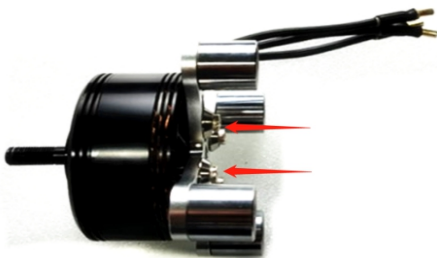
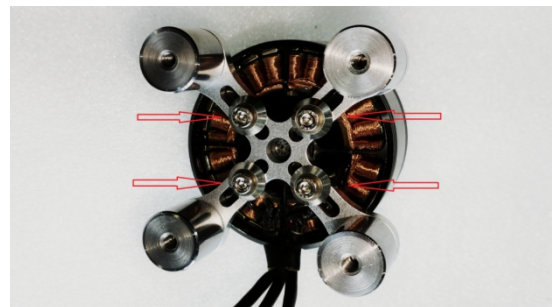

Fig.2.1.3
Fig.2.1.4
(2) Mount the motor with 4 screws and fish-eye washers,as shown in Fig. 2.1.3 and Fig. 2.1.4